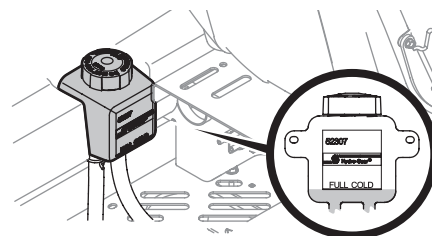

Fig. 42
1. Pivot the operator's seat forward and clean the reservoir cap and the area around the cap to prevent debris from contaminating the transmission oil (Fig. 42).
2. Turn the reservoir cap counterclockwise to remove, then check the oil level in the reservoir. Oil should be visible at the bottom of the cup, but the oil level must **NOT** be above the "FULL COLD" line (Fig. 42). **DO NOT FILL THE RESERVOIR.**